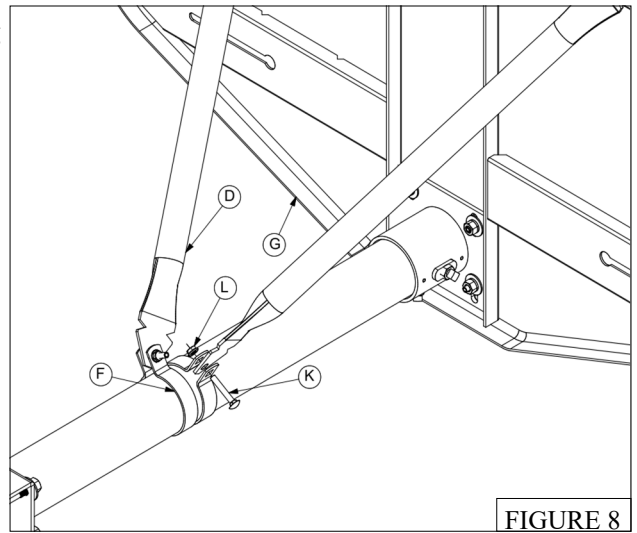

FIGURE 8
12. Use the *Backboard Braces* (D) to add stability to the *Backboard* (G). Exact method of attachment will depend on the *Backboard* (G) being used. In all cases the *Backboard Braces* (D) will need to have the two ends bent to match the appropriate angle between the *Band Clamps* (F) and the mounting on the rear of the *Backboard* (G). This can easily be accomplished in a number of ways including contacting the end of the *Backboard Braces* (D) on a concrete surface. For fan-shaped or rectangular *Backboards* (G) with horizontal slots in the rear use 7/16" x 1 1/2" *Carriage Bolts* (M), 7/16" *Flat Washer* (N), 7/16" *Lock Washers* (O) and 7/16" *Hex Nuts* (P) on the backboard end. See Figure 7. For *Backboards* with 3/8" threaded holes in the rear of the *Backboard* (G) use 3/8" x 1" *Hex bolts* (Q), 3/8" *Flat Washers* (R) and 3/8" *Lock Washers* (S). In all cases the lower end of the *Backboard Braces* (D) are attached to the *Band Clamps* (F) using 5/16" x 2" *Carriage Bolts* (K) and 5/16" *Flange Nuts* (L) tighten all *Backboard Brace* (D) hardware only when *Backboard* (G) is plumb and rim is level. See Figure 8.